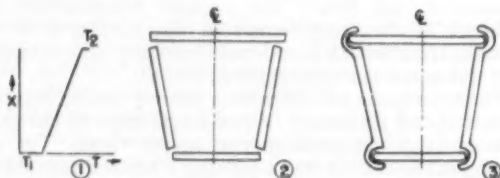

Fig. 2 Temperature gradient applied axially to large-diameter cylinder
dient is axially applied to a large-diameter cylinder, this flexibility considerably reduces the stresses. This can be shown by Fig. 2. With a temperature gradient as indicated in (1) the cylinder would take a position as shown in (2) and the end pieces would be a diameter corresponding to their average temperatures. With rigid attachment a bending moment is applied at the junction point. This gives rise to the stresses; however, with a flexible joint as shown in (3), these are eliminated.